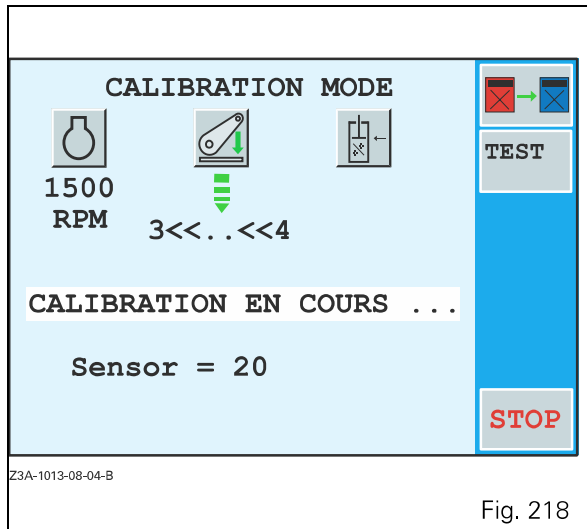

Fig. 218
- Press the key \llcorner_6 . Calibration starts and a new window is displayed (Fig. 218).